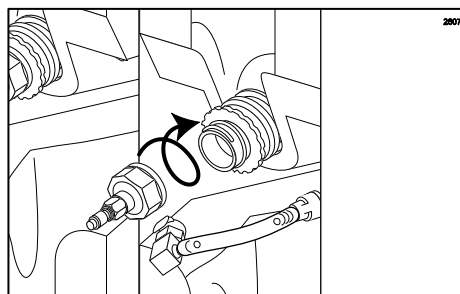

Figure 162
11. Attach the Syrup Bag Adapter to the bag fitment. (See Figure 162.)